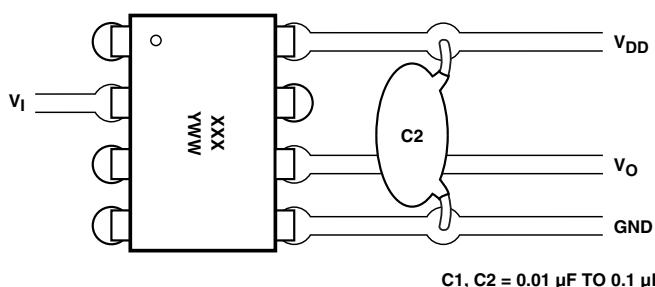

Figure 7. Recommended printed circuit board layout.
0.1 μ F. For each capacitor, the total lead length between both ends of the capacitor and the power-supply pins should not exceed 20 mm. Figure 7 illustrates the recommended printed circuit board layout for the HPCL-0708.